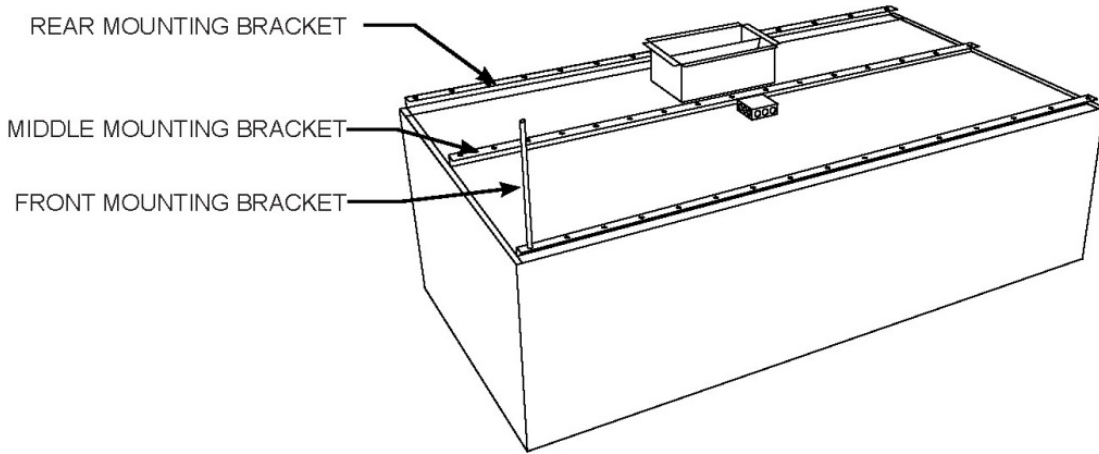

Figure A-2-1
3. Each Ventilator section has a full length Rear Mounting Bracket at the rear for bolting to the wall and /or hanging from the overhead. There are two other full length hanging brackets; the Middle Mounting Bracket and the Front Mounting Bracket for hanging from the overhead (refer to Figure A-2-1). All three Hanging Brackets have pre-punched holes for hanging from the overhead. Hanging rods to be supplied by the Ventilator installer. If the rear bracket is used for bolting to the wall the holes must be drilled by the installing contractor at a support point in the wall. .